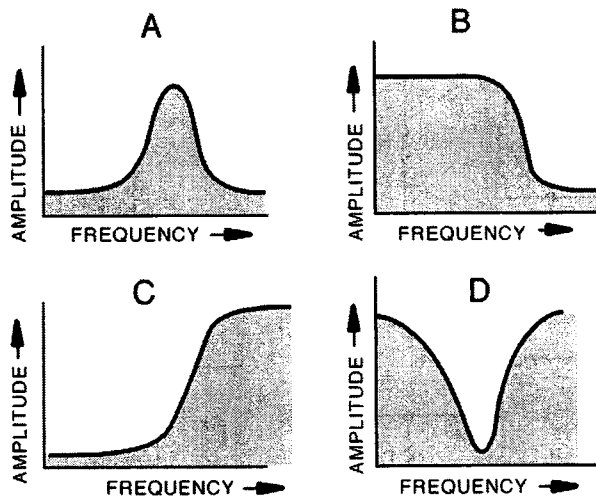

Figure 5-36
88. (capacitor, coil) Figure 5-36 shows the response curves of the four basic types of filters. Match the following: